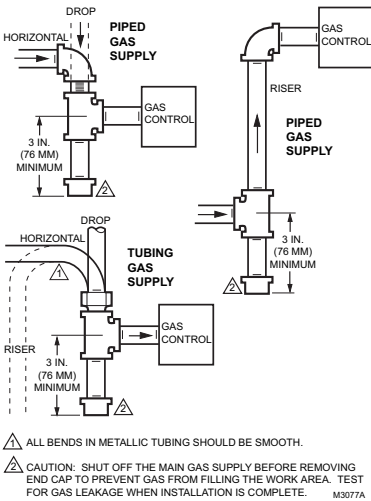

Fig. 2. Sediment Trap Installation.
3. Install sediment trap in the supply line to the gas control (See Fig. 2).